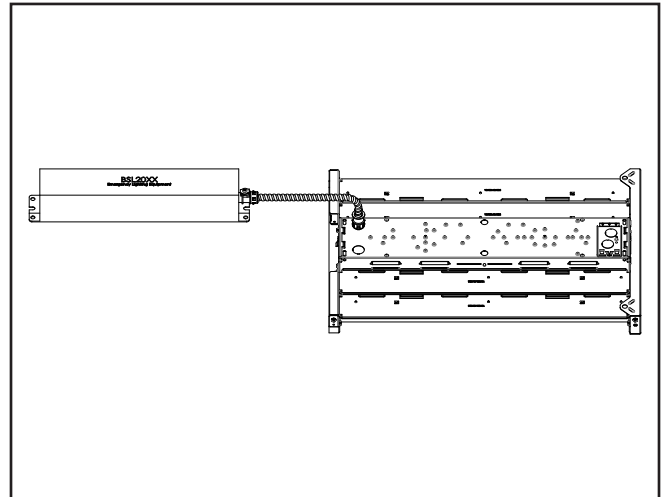

Figure 2.
3. Remove the mounting plate (item 1) from the battery and discard.
4. Mount the battery pack, either horizontally or vertically, to the building structure or any other supporting arrangement using appropriate hardware (not included). (Figure 2.)